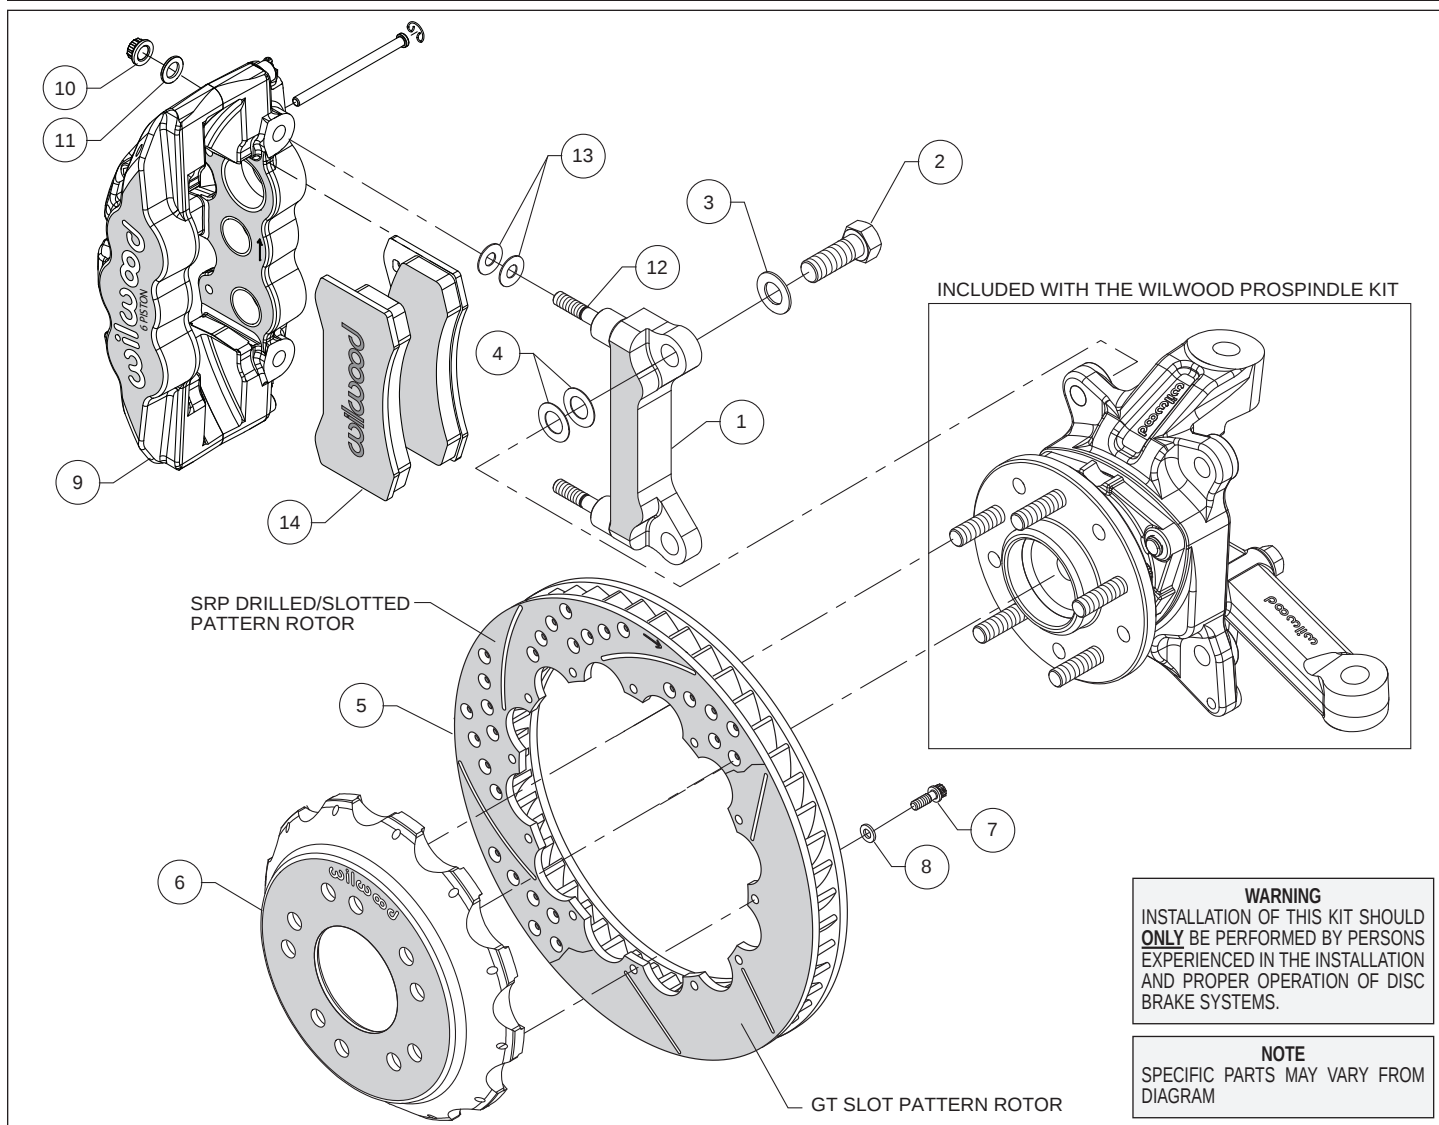
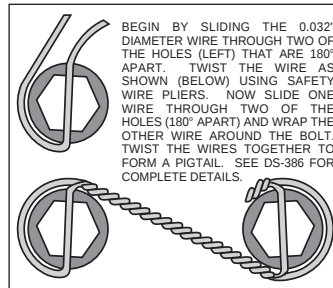

Figure 1. Typical Installation Configuration
Figure 3. Safety Wire Diagram
Assembly Instructions (numbers in parenthesis refer to the parts list and Figure 1 on the preceding pages):
• The caliper mount bracket (1) should initially be installed with clean, dry threads on the mounting bolts. Orient the bracket as shown in Figure 1 and Photo 1 and install using mount bolts (2) and washers (3). Initially place two .024" thick shims (4) on each bolt between the bracket and spindle, Figure 1. Temporarily tighten the mounting bolts. **NOTE:** The bracket must fit squarely against the mounting points on the spindle. Inspect for interference from casting irregularities, machining ridges, burrs, etc. Later, after the caliper alignment has been checked, the mount bolts will be secured using red Loctite® 271.
- Orient the rotor (5) and the hat (6) as shown in Figure 1 and Photo 2. Attach rotor to hat using bolts (7) and washers (8). Using an alternating sequence, apply red *Loctite*® 271 to the threads, and torque to 155 in-lbs. For an added measure of security, the bolts may be safety wired using standard 0.032 inch diameter stainless steel safety wire as shown in Figure 3. Please refer to Wilwood's data sheet DS-386 (available at www.wilwood.com/Pdf/DataSheets/ds386.pdf) for complete safety wire installation instructions.
- **NOTE:** This kit contains distinct right and left hand calipers that must be mounted in a specific direction, as described below. Lubricate the caliper mounting studs (12) with lightweight oil. Initially place two .030" thick shims (13) on each stud between the caliper and the bracket, as shown in Figure 1 and Photo 5. Mount the caliper (9) onto the bracket (1) using lock nuts (10) and washers (11), Figure 1. Ensure that the caliper is mounted so the largest pistons are at the rotor exit end of the caliper, in relation to the direction of rotor rotation. Temporarily tighten the lock nuts and view the rotor through the top opening of the caliper. The rotor should be centered in the caliper, Photo 6. If not, adjust by adding or subtracting shims (4) between the bracket and the spindle. Always use the same amount of shims on each of the two mounting bolts. Once the caliper alignment is correct, remove the bracket mounting bolts one at a time, apply red *Loctite*® 271 to the threads, and torque to 140 ft-lb.
- Remove the two pad retaining pins from the caliper (9) by carefully popping out the pin retaining clips and sliding out the pins. Insert the brake pads (14) into the caliper from the bottom, Figure 1, Photo 7. With the friction material facing the rotor, secure the brake pads in place with the pad retaining pins and clips, Photo 8. Reinstall the caliper onto the caliper mounting bracket and temporarily tighten the lock nuts. Check that the top of the brake pad is flush with the outside diameter of the rotor, Photo 9. If not, adjust by adding or subtracting shims (13) between the caliper and the bracket. After the caliper pad height is set, torque the caliper lock nuts (10) to 47 ft-lb.